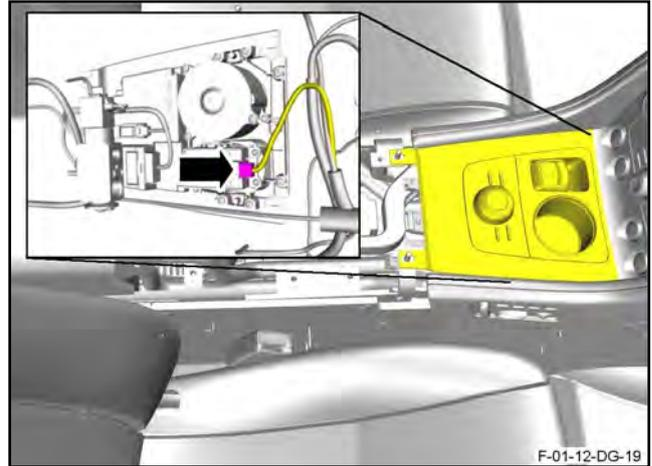

Figure 48
59. Disconnect the electrical connector from the park brake switch (refer to Figure 48).